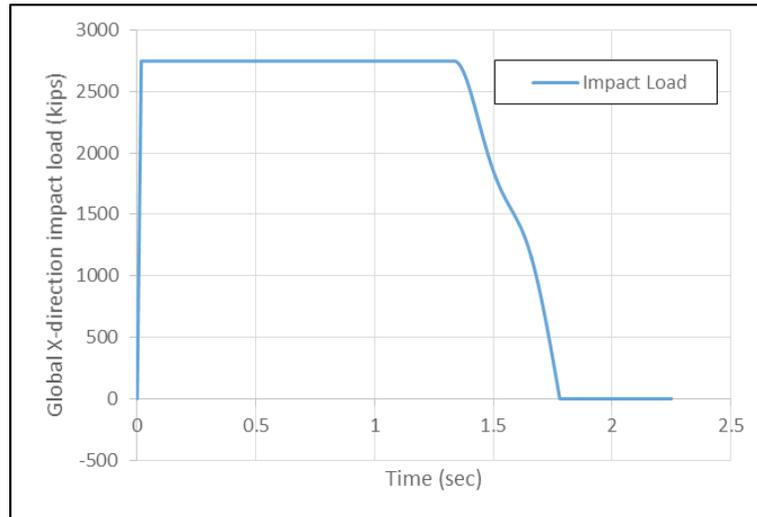

Figure 11 Vessel collision impact-load history.
8. The vessel impact-load history is generated automatically by FB-MultiPier during the analysis and stored in the .VES file (Figure 10). This file (the .VES file) is saved in the same folder as the input file. The full impact-load history, excerpted from the .VES file generated as part of the current example, is shown in Figure 11.